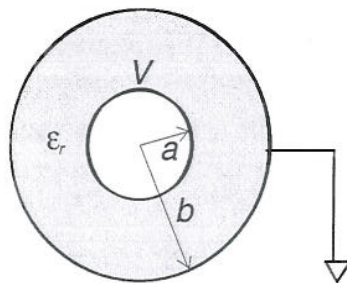

Figure 5.1
5. A coaxial cable cross-section is shown in Figure 5.1 below. The radii of the inner and outer conductors are $a = 4 \text{ mm}$ and $b = 8 \text{ mm}$ respectively, and the relative permittivity of the dielectric between them $\epsilon_r = 6$.